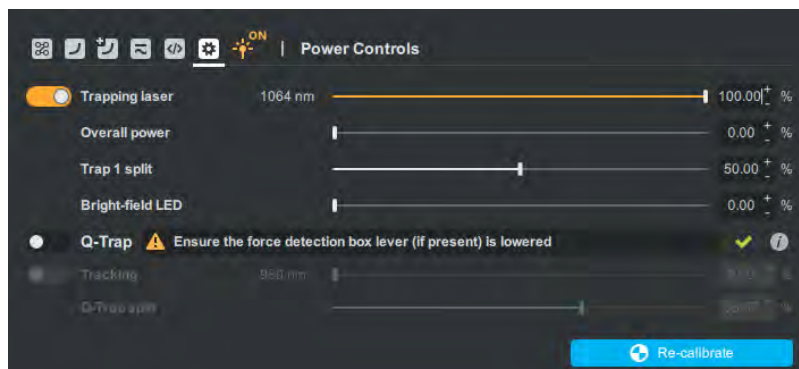

Figure 11.5.2: Power Controls panel in Bluelake.
2. In the bottom left corner of the Bluelake control window (right screen), locate the **Power Control** center (see Figure 11.5.2). Click on the gear button to access the settings. Set